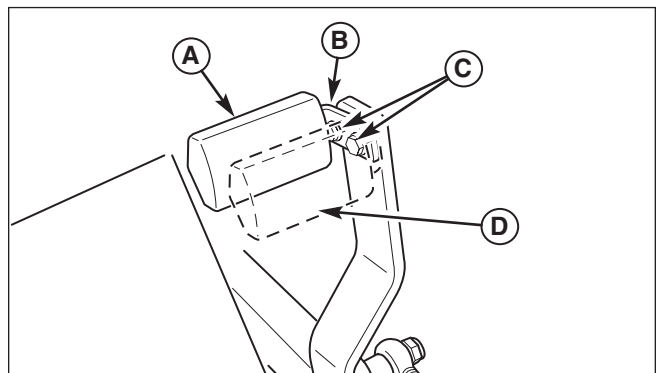

Figure 7. Foot Pedal Adjustment
1. Remove the foot pedal (A, Figure 7) from the pedal mount tab (B).
2. Remove the pedal mount hardware (C) and rotate the tab 180 degrees.
4. Reinstall the foot pedal on the pedal mount tab in the proper orientation as shown in Figure 7.